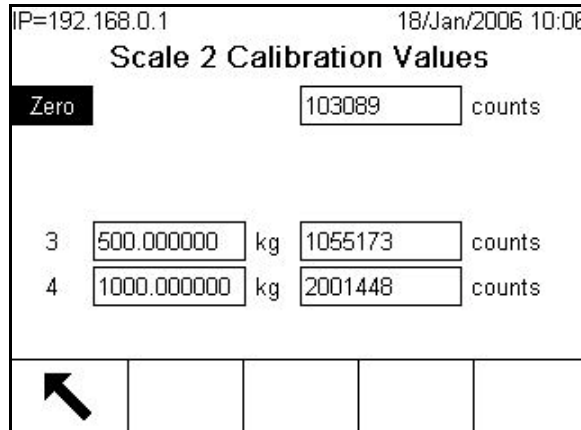

Figure 3-21: Calibration Values Screen, Zero in Focus
- **Calibration Values**—Displays the current calibration values for each scale (Figure 3-21). If these values are recorded after a scale calibration, and the scale channel PCB is replaced in the future, the calibration values can be manually entered here to “transfer” the previous calibration to the new scale channel PCB. This is not available with IDNet bases.